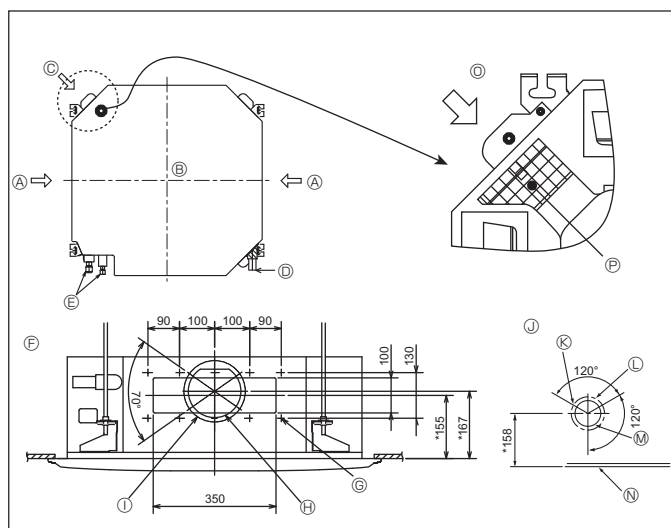

Fig. 2-3
2.3. Branch duct hole and fresh air intake hole (Fig. 2-3)
At the time of installation, use the duct holes (cut out) located at the positions shown in Fig. 2-3, as and when required.